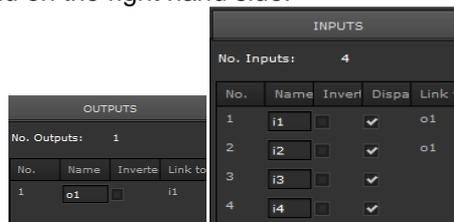

Abbildung 74: Input and output parameters
In figure 74 two inputs E1 and E2 are connected to the gate. The maximum number of inputs (4) is set in the input properties. Input i1 is inverted; i1 and i2 are connected to output o1. All inputs are sending to the output.